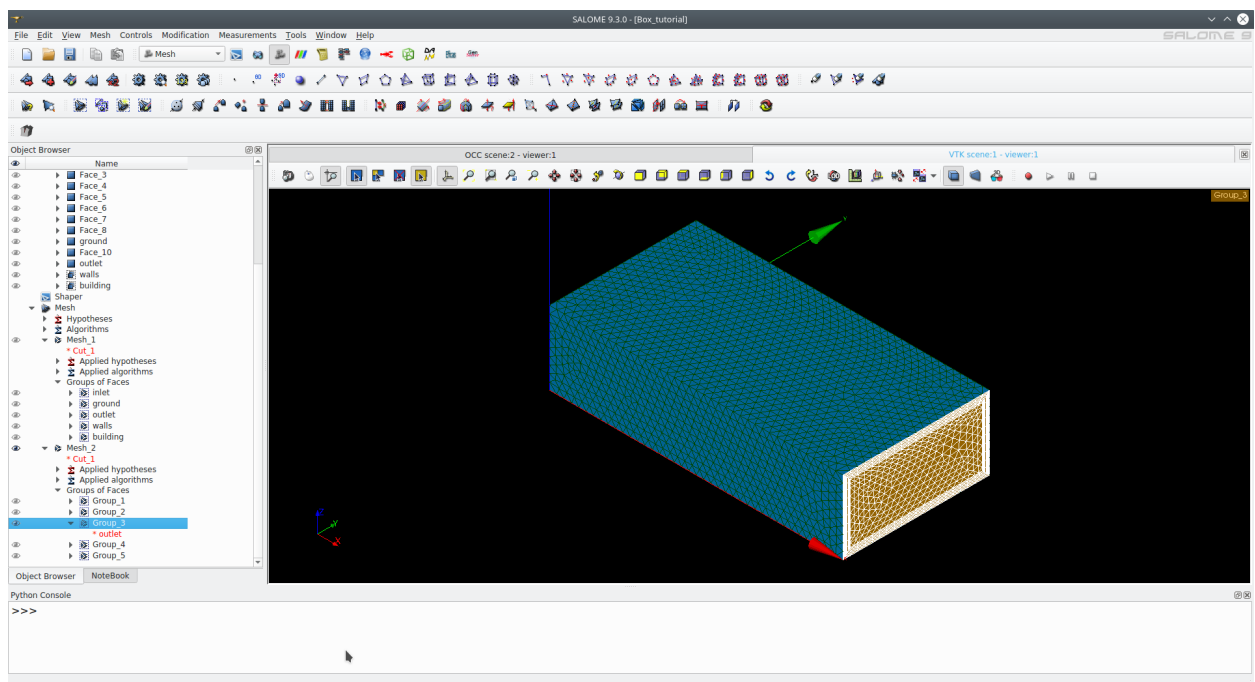

Figure 9: Mesh groups created for faces. Outlet group highlighted.
- Similarly rename the remaining groups according to their parent faces/face groups. (**ground**, **outlet**, **walls**, **building**). The groups for Faces should have something similar as seen for **Mesh_1** in figure 9.